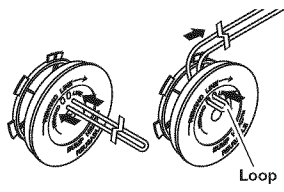

Fig. 17
6. Take approximately 20 feet (6 m) of new trimming line, loop it into two equal lengths. Insert each end of the line through one of the two holes in the inner reel (Fig. 17). Pull the line through the inner reel so that the loop is as small as possible.